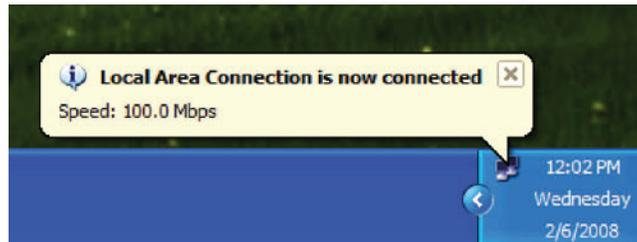

Figure 5-15 Local Area Connection Confirmation
- 5) After the connection has been established, you should see the message as shown in Figure 5-15 at the bottom right of your PC screen. Double-click the network icon.